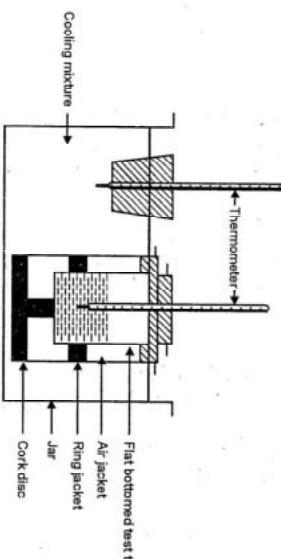

Fig. 3.6.4 : Cloud or pour point apparatus
- The cloud and pour points for an oil are determined by using a specific apparatus shown in Fig. 3.6.4.
- Apparatus consists of a broad petridish/jar, which is used as a cold bath. The oil is taken in a flat bottomed hard glass test tube. This test tube is kept in an air jacket as shown in Fig. 3.6.4.